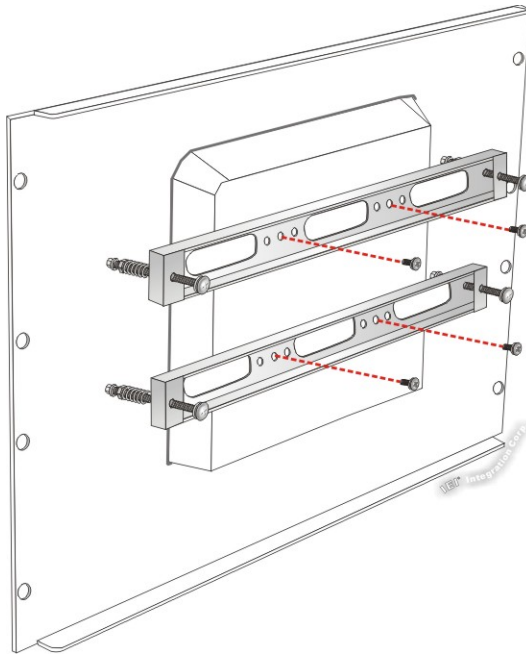

Figure 3-19: Securing Rack Mounting Brackets
- Step 5:** Secure the two rack mounting brackets to the rear of the panel PC by inserting the four retention screws into the VESA mounting holes and tightening them (Figure 3-19).